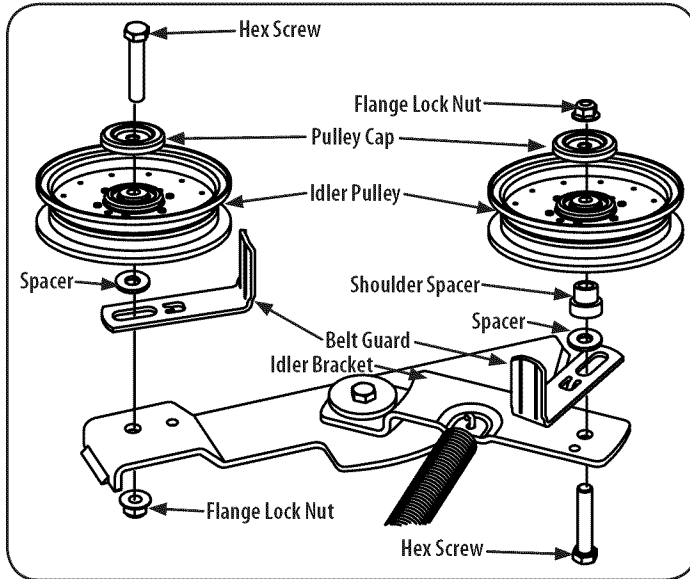

Figure 36
- Remove the movable idler pulleys and belt guard on the left pulley by removing the hex screws, pulley cap and flange lock nuts that secure them to the idler arm and deck. See Figure 36. Do not lose any of the hardware when removing the hex screw, belt guard, pulley cap, spacer, shoulder spacer and flange lock nut.
- Place the belt around the idler pulleys removed in step 3 with the "V" side facing in. Once in place, reinstall all the hardware and tighten the flange lock nut to secure the assembly. See Figure 36.
- Route the belt as shown in Figure 36 and then reinstall the deck (refer to Deck Installation).